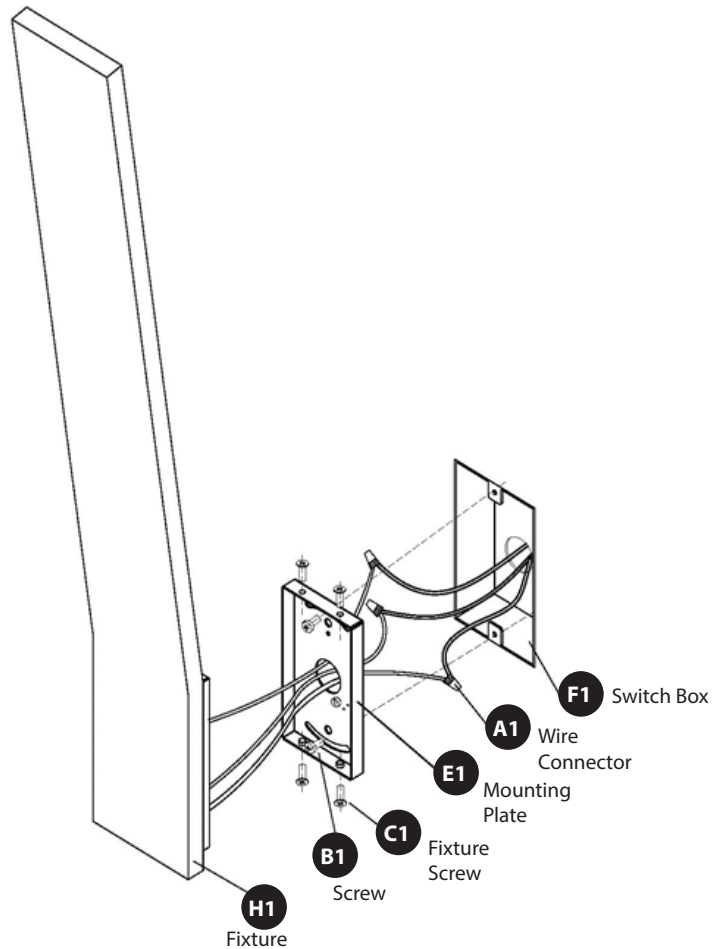

Fig.3 Wiring
4. Connect the electrical wires as shown in **Fig. 3**, making sure that all wire connectors are secured. Fixture and junction box ground wires should be connected to mounting plate using green screw provided. After wires are connected, tuck them carefully inside the junction box.